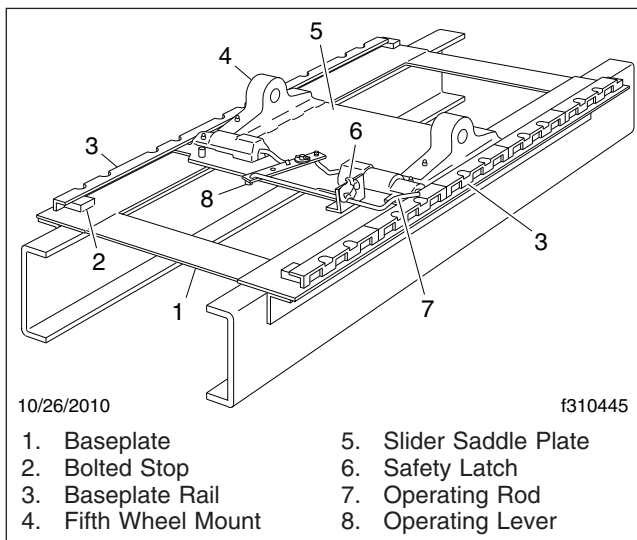

Fig. 18.13, Sliding Fifth Wheel Manual Release, (Holland Simplex)
- 2.2 **Holland:** Pull the operating rod out. Make sure both side plungers have released. See Fig. 18.13.